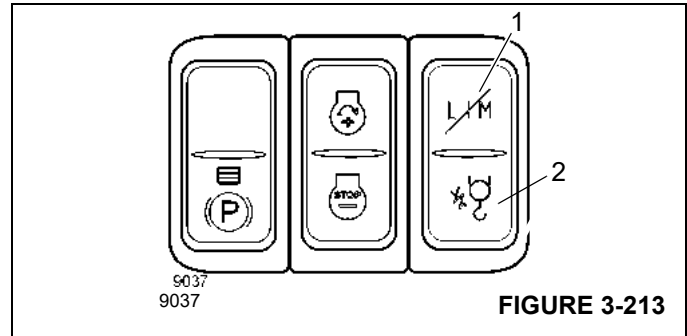

FIGURE 3-213
Switch for overriding the following lockouts (1), (Figure 3-213):
Switch (2), (Figure 3-213) for overriding the following lockouts: